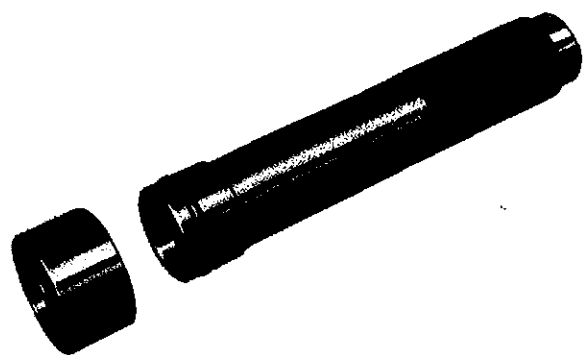
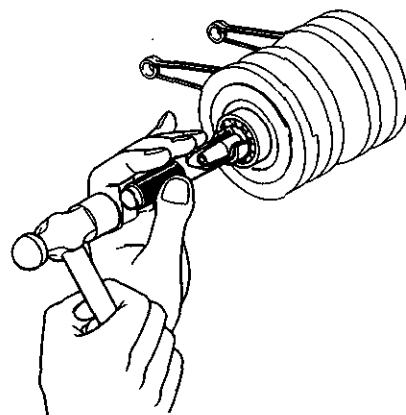

Fig.4
Fig.5
Place inner driver matching the bearing size (Fig.1-⑱~⑳or㉓~㉕) and the handle (Fig.1⑲or ㉒) onto the bearing race(Fig.4) and drive in with a hammer.(Fig.5) There are also instances in which the handle only is used to drive in the bearing race depending on the size of the bearing.